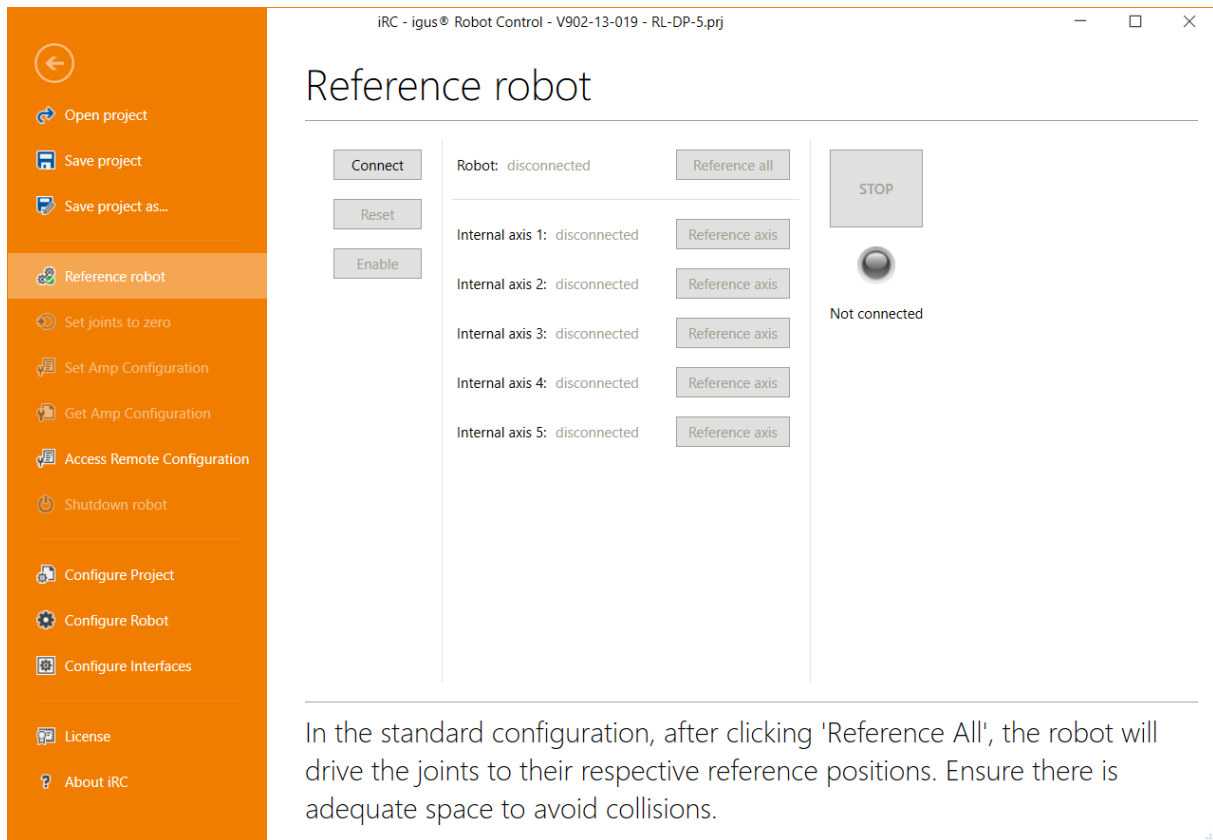

Figure 16: Referencing of the axes.
4. Click on the "Reference Axis" buttons to start referencing an axis, see Fig. 16. Multiple joints can perform referencing in parallel.